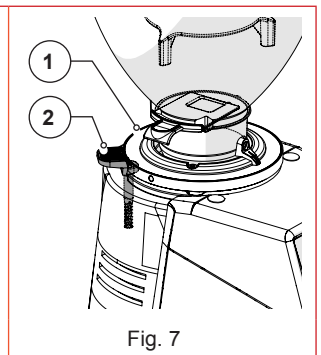

Fig. 7
- **Safety adjustment collar lock (Fig. 7)**